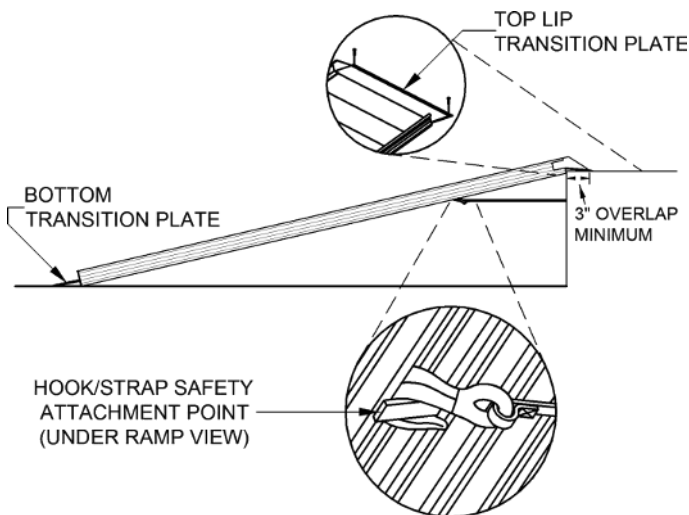

FIG. 1
4. Ramp is equipped with a safety attachment point underneath the upper portion of ramp as a method of securing ramp when in use (FIG. 1). Use a strap, chain, or rope (not supplied) to attach the ramp to a vehicle or other structure when in use to prevent the top lip transition plate from slipping off the supporting surface.
5. In addition to the safety attachment point, secure top lip transition plate of ramp to supporting surface with clevis pins (or similar fasteners - not supplied) to prevent top lip transition plate from slipping when in use. Drill two 1/4" diameter holes through the top lip transition plate into supporting surface to a depth of 1" (minimum). Secure top lip transition plate by placing two 1/4" x 1" clevis pins through the drilled holes and into the supporting surface (FIG. 1).
- ▲ Do not use ramp if less than 3" of top lip transition plate is overlapping support surface (FIG. 1).